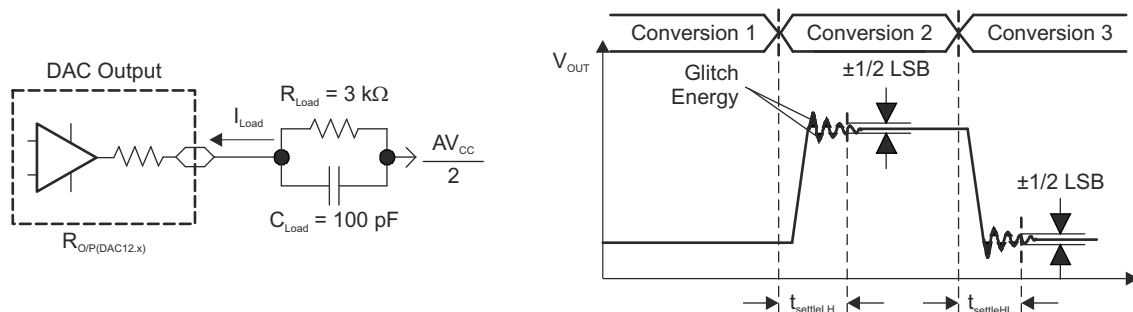
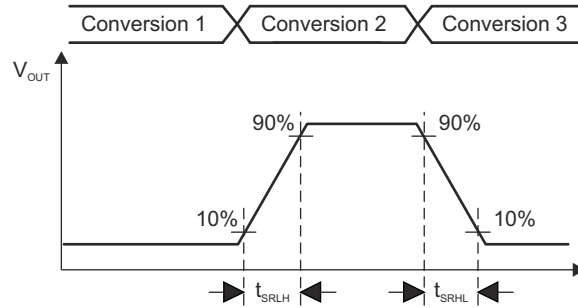

图 8-19. Settling Time and Glitch Energy Testing
图 8-20. Slew Rate Testing
V_{REF} = V_{CC}, DAC12IR = 1 (see 图 8-19 and 图 8-20), over recommended ranges of supply voltage and operating free-air temperature (unless otherwise noted)
- (1) R_{Load} and C_{Load} connected to AV_{SS} (not AV_{CC}/2) in 图 8-19.
- (2) Slew rate applies to output voltage steps ≥200 mV.